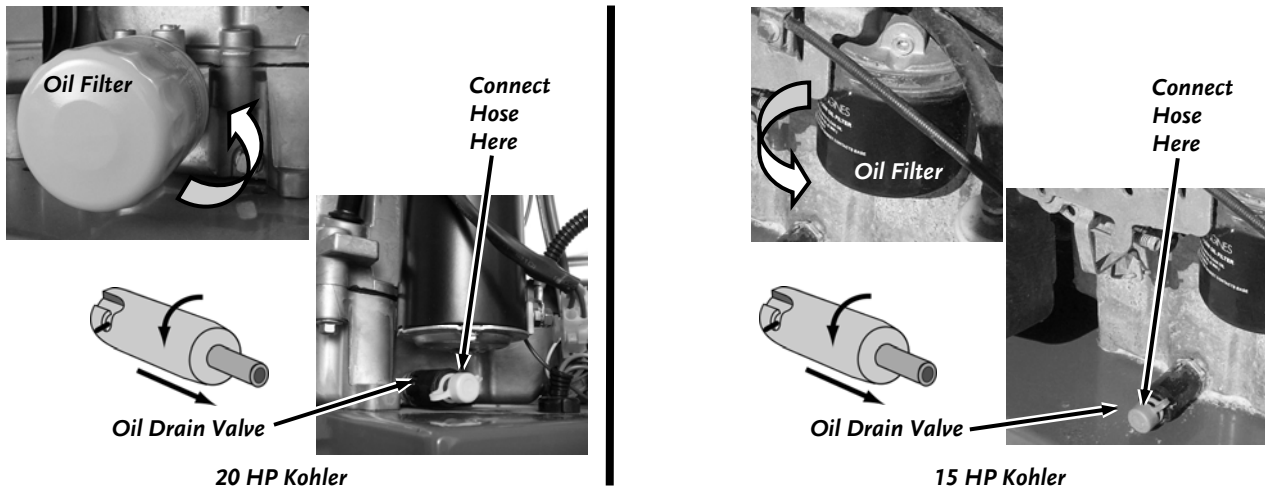

Figure 28
1. Attach the Plastic Hose (provided in product package) to the Quick Release Oil Drain Valve located on the side of the Engine (**Figure 28**). Turn the Valve counterclockwise and pull out to drain the oil into a suitable oil receptacle.